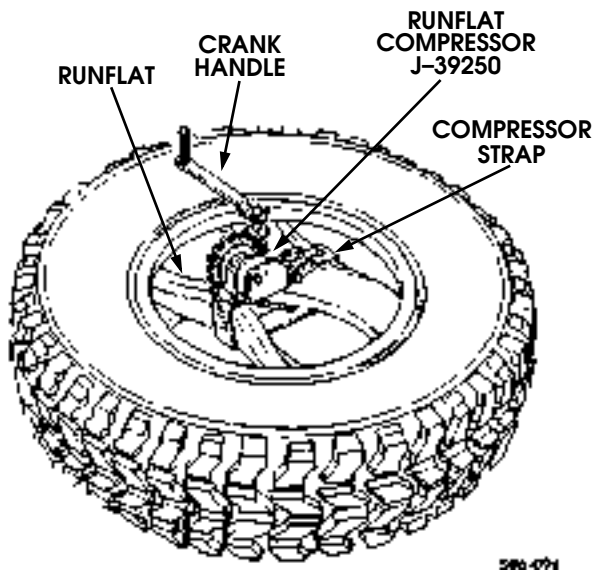

Figure 6-5: Runflat Compressor Operation
18. Position runflat compressor on an outer edge of runflat with handle assembly facing up and strap centered around runflat (Figure 6-5).